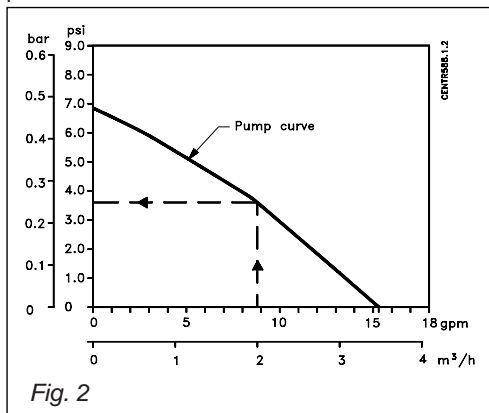

Fig. 2
- Pump characteristic, see fig. 2